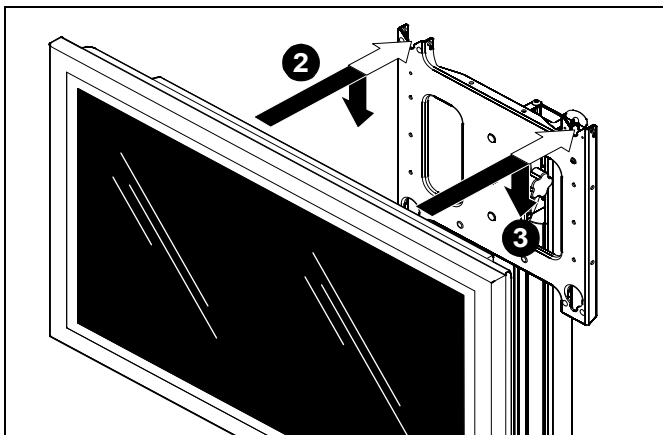
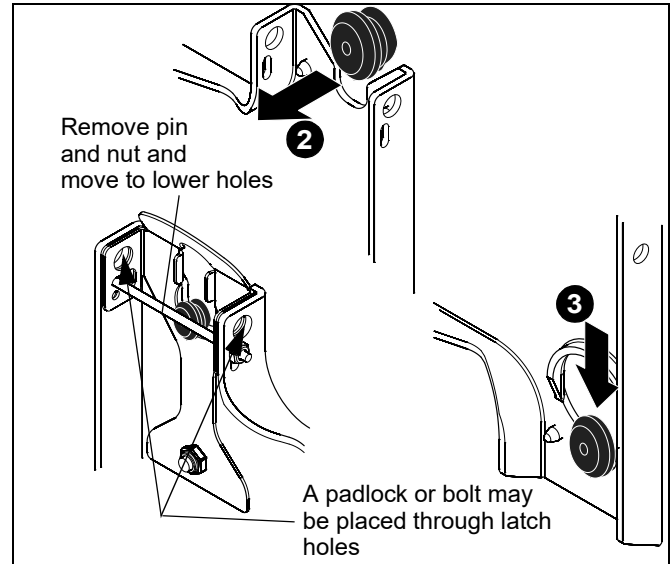

Figure 9
Figure 10
1. Attach PSBU interface bracket(s) (E) to the display(s) following the instructions included with the bracket.
2. While supporting both sides of display, align four mounting buttons on display or interface bracket with four mounting holes in head assembly. (See Figure 9) and (See Figure 10)
3. Lower display into place listening for audible "click" to ensure recessed area of mounting buttons are properly seated in lower area of mounting holes. (See Figure 9) and (See Figure 10)
**NOTE:** Holes are provided in the faceplate for use with a padlock or similar locking device, if desired. In addition, the pin and nut may be removed from the upper holes and moved to the lower holes for use as a more permanent locking device. (See Figure 10)